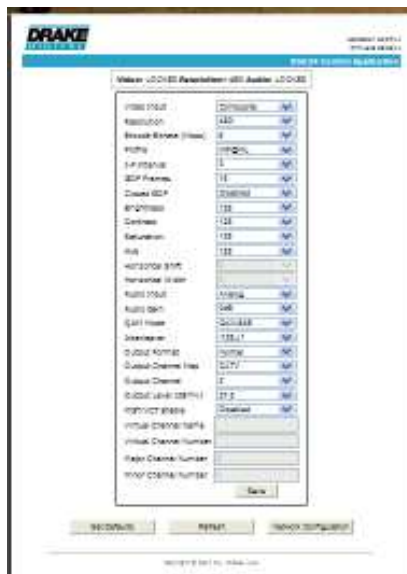

FIGURE 2
6) You will then be presented with the main control screen similar to the one in Figure 2. You will notice that all DSE24 parameters are listed along with the values that were previously selected for each parameter from the DSE24 front panel. At the top of the display you will note that the status of the audio and video along with the currently selected resolution are shown.